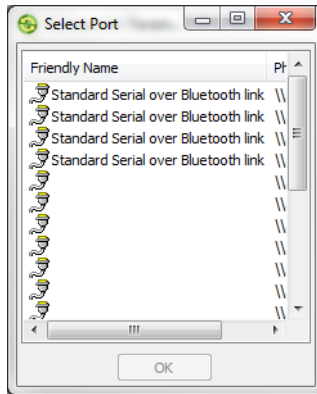

Figure 3-2. Select COM Port
3. Select the **COM Port** of the computer to which the receiver is connected (Figure 3-2 on page 3-3).